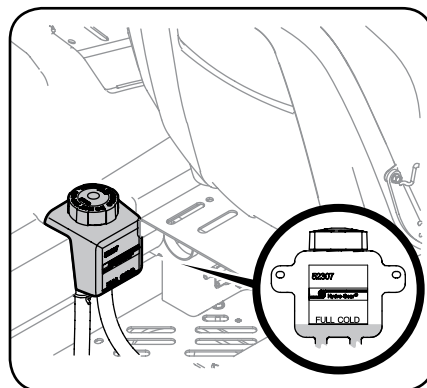

Figure 4-7
1. Pivot the operator's seat forward and clean the reservoir cap and the area around the cap to prevent debris from contaminating the transmission oil. See Figure 4-7.
2. Turn the reservoir cap counterclockwise to re-move, then check the oil level in the reservoir. Oil should be visible at the bottom of the cup, but the oil level must NOT be above the "FULL COLD" line. See Figure 4-7. DO NOT FILL THE RESERVOIR.